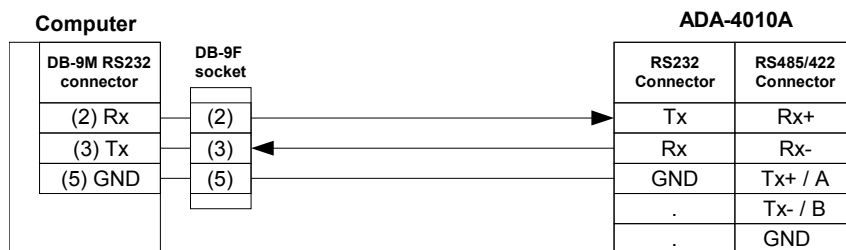

Fig 3. Connection to computer by the cable.
- RS232 port of computer should be made a cable according to schema on Fig.3,